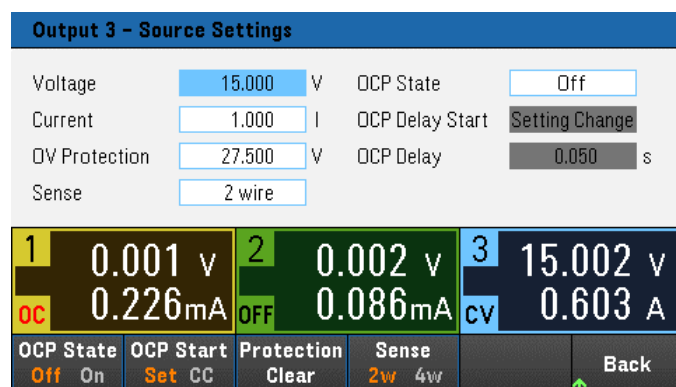

Figure 6. Protection clear has re-enabled output three; output one and two remain off
3. Clear the protection on all channels. Protection clear causes the output to go from "Off" back to its set voltage. See figure 6. Output three has had the protection cleared and went from "Off" back to sourcing 15 V.